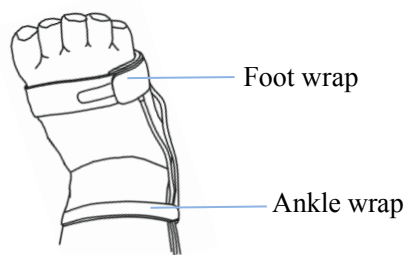

Figure 3.10C Right foot view
- ② Use the ankle wrap to secure the sensor cable on the ankle or leg (see Figure 3.10C). Do not over-tighten.